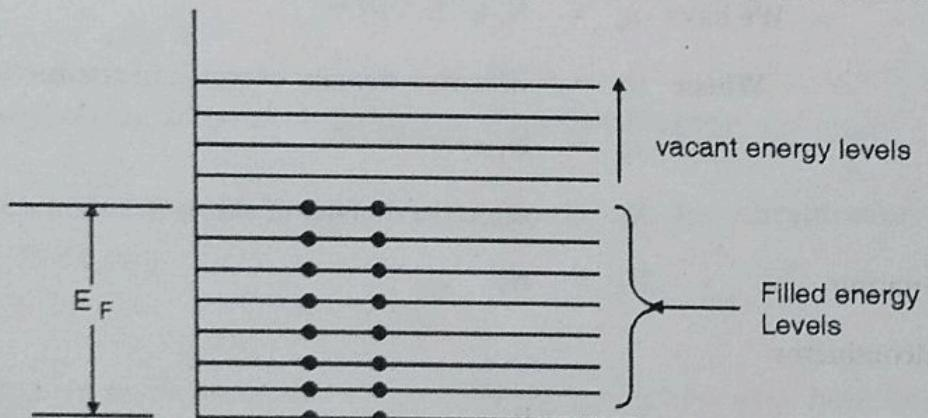

Fig. 1.1.1 : Fermi energy
- However, there will be many more allowed energy levels left vacant as shown in Fig. 1.1.1.